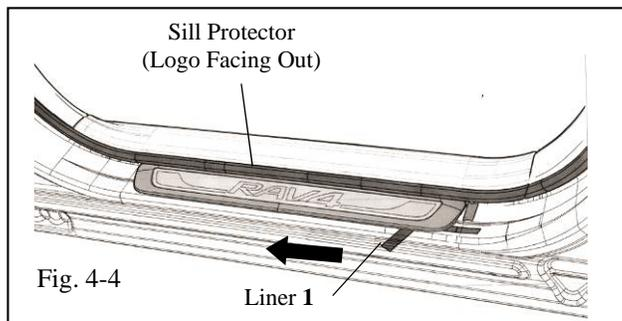

Fig. 4-4
NOTE: Logo has to be facing outwards as shown (Fig. 4-4).
- e. While holding protector in position and Liner 1 facing under and outward, pull in direction of arrow to remove tape (Fig. 4-4).